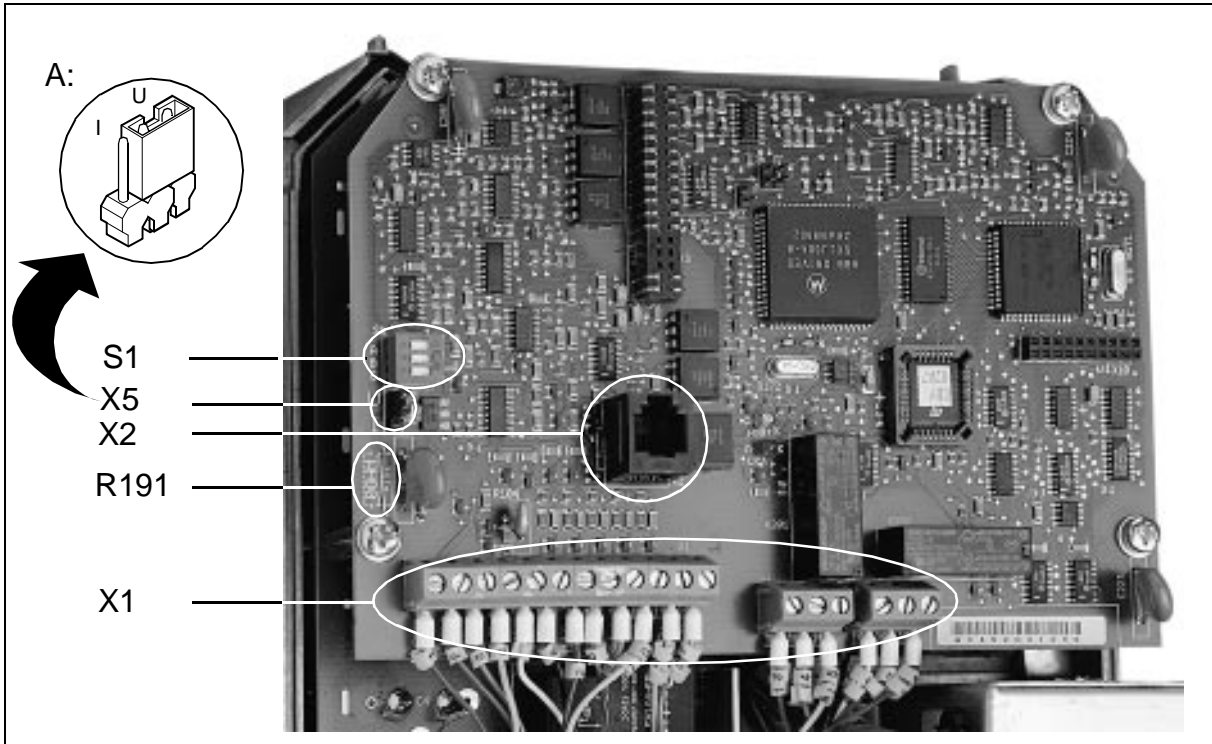

Figure 4-1 Control Card
The analogue input signal is selected with jumper X5 as shown in figure 4-1 enlargement A:  $I$  = current 0(4) to 20 mA and  $U$  = voltage 0(2) to 10 V.
1) Refer to figure 4-1 "Control Card" on page 24 for voltage/current reference selection.